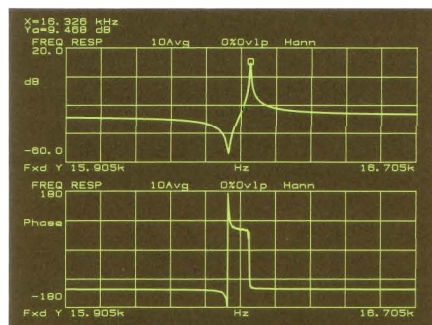

Figure 2-6
- 3. Magnitude and Phase.** Select the **FREQ RESP** softkey. Press the **COORD** (coordinate) key. Several trace coordinates including phase and linear magnitude are available. The **NEXT** softkey displays the next level of coordinates, which includes linear or logarithmic frequency axis. An example is shown in figure 2-6.